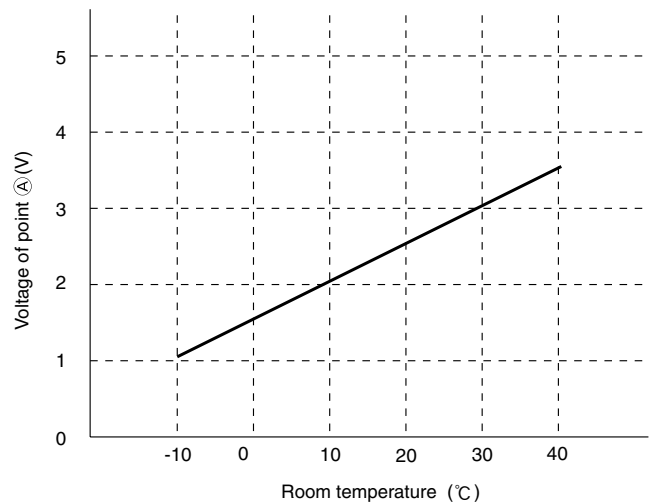

Fig. 4-2
- (1) Preheating
- (2) Low-temperature defrosts at cooling·dehumidification operation time.
- (3) Not working of reversing valve or detection of opening of heat exchange thermistor is controlled.
According to heat exchange temperature, the voltage of point ① becomes as it is shown in Fig. 4-2.